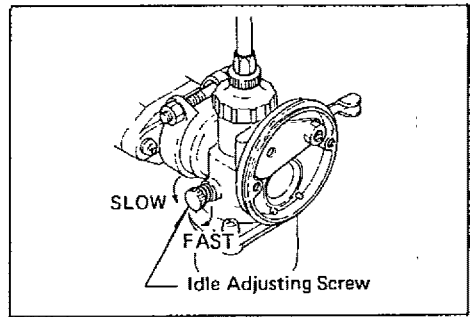

Figure 9
- a. Your motor has a idle adjusting screw and the idle speed has been preset at the factory. However, you may need to adjust the idle speed using Idle Adjusting Screw. Turn the Screw clockwise to increase motor speed and counter clockwise to decrease it. The idle speed adjustment must be done with throttle lever at full closed position and the idle speed should be as low as possible while the engine runs steady. (See Figure 9)